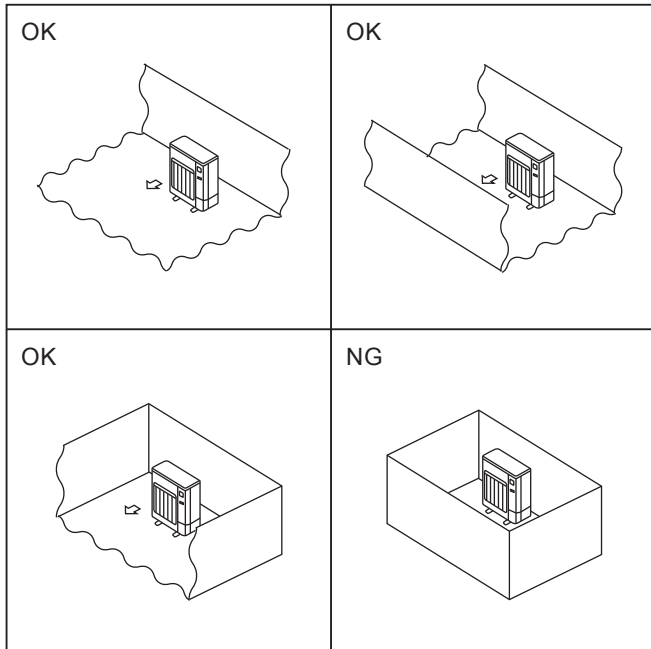

Fig. 1-1
- ◎ Install outdoor units in a place where at least one of the four sides is open, and in a sufficiently large space without depressions. (Fig. 1-1)